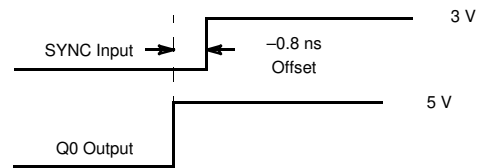

Figure 3. Depiction of the Fixed SYNC to Q0 Offset (tPD) Which Is Present When a 470 KΩ Resistor Is Tied to VCC or Ground
2. A 470 KΩ or 1 MΩ resistor tied to either Analog VCC or Analog GND, as shown in Figure 3, is required to
ensure no jitter is present on the MC88LV926 outputs. This technique causes a phase offset between the SYNC input and the Q0 output, measured at the pins. The tPD spec describes how this offset varies with process, temperature, and voltage. The specs were arrived at by measuring the phase relationship for the 14 lots described in note 1 while the part was in phase-locked operation. The actual measurements were made with a 10 MHz SYNC input (1.0 ns edge rate from 0.8 V to 2.0 V). The phase measurements were made at 1.5 V. See Figure 3 for a graphical description.
to pull up the  $\overline{RST\_OUT}$  pin when it goes into the high impedance state (after the MC88LV926 is phase-locked to the reference input with  $\overline{RST\_IN}$  held high or 1024 'Q' cycles after the  $\overline{RST\_IN}$  pin goes high when the part is locked). In the  $t_{PLZ}$  and  $t_{PZL}$  specifications, a 1 K $\Omega$  resistor is used as a pull-up as shown in Figure 3.